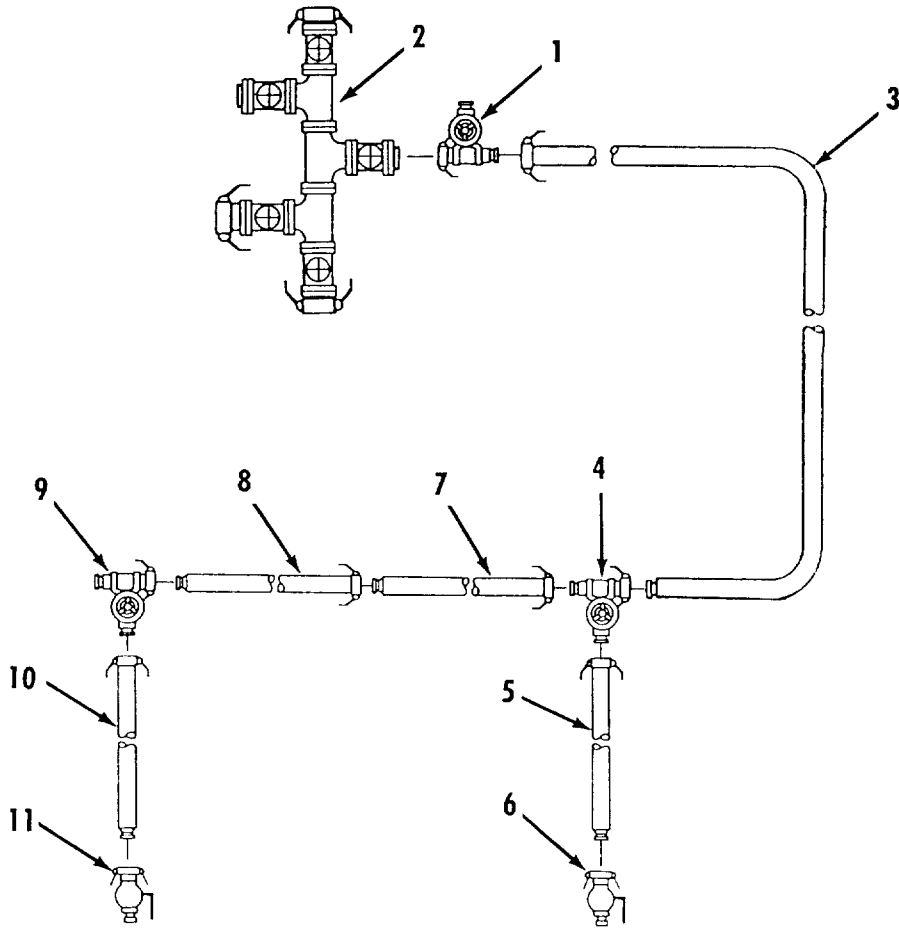

Figure 2-51. Fuel System - Fueling Manifold with Five Valves to Bottom Loading Points Removal.
- j. Fuel System - Fueling Manifold with Five Valves to Bottom loading Points Removal. Refer to figure 2-51.